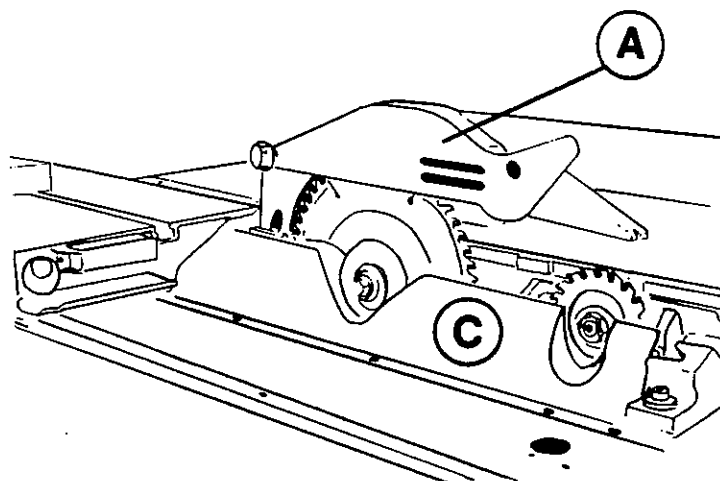

Fig.16
After fitting the blade, apply on the riving hood (A fig.16) and bottom cover (C).